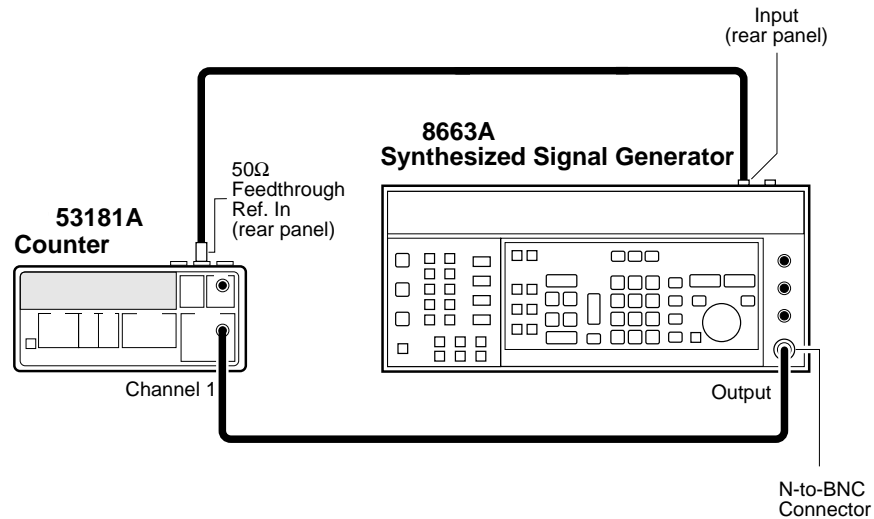

Figure 1-12. Channels 1 Frequency Sensitivity Test Setup
- 1 Connect the equipment as shown in Figure 1-12 with the signal generator connected to Channel 1 of the Counter.